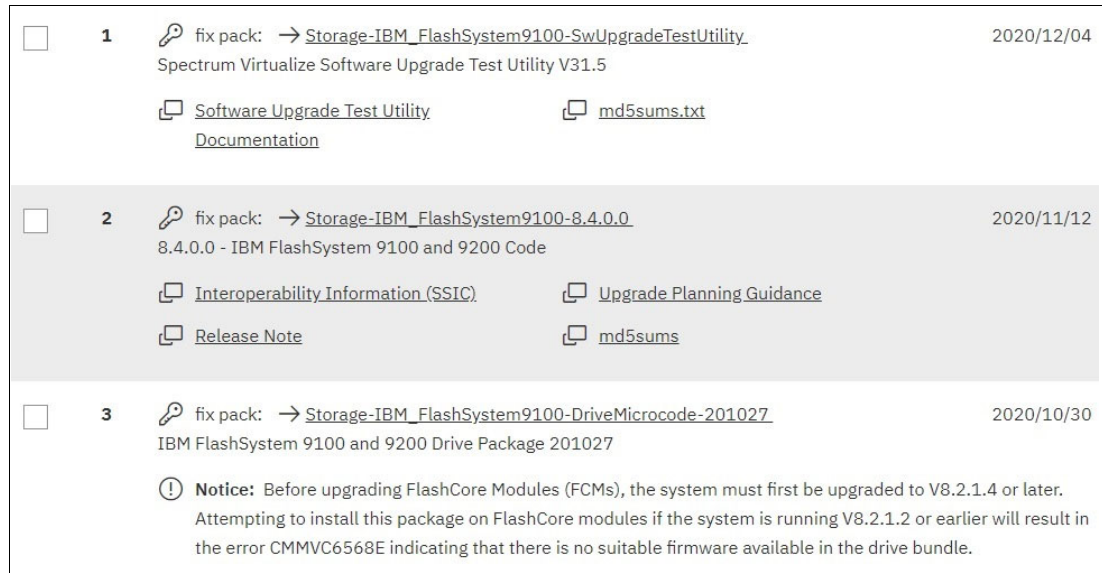

Figure 10-3 Fix Central software packages
4. In the **Product Software** section select the following three items as shown in Figure 10-3: